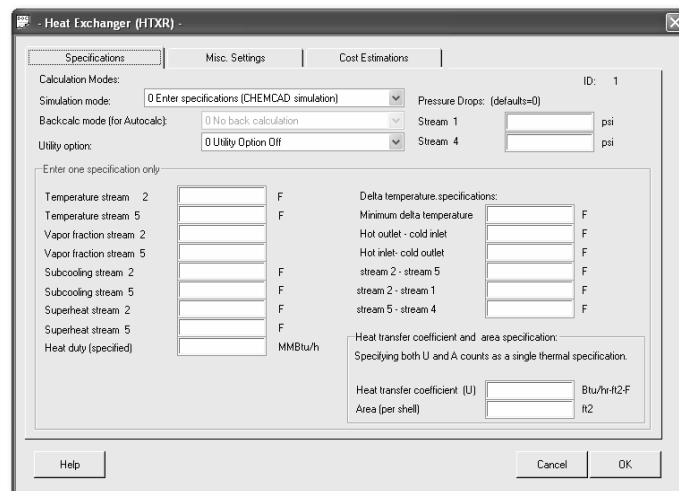

Figure 11-11: The Heat Exchanger dialog box
1. Double-click the flowsheet icon for the first heat exchanger. The Heat Exchanger dialog box will appear, as shown in Figure 11-11.